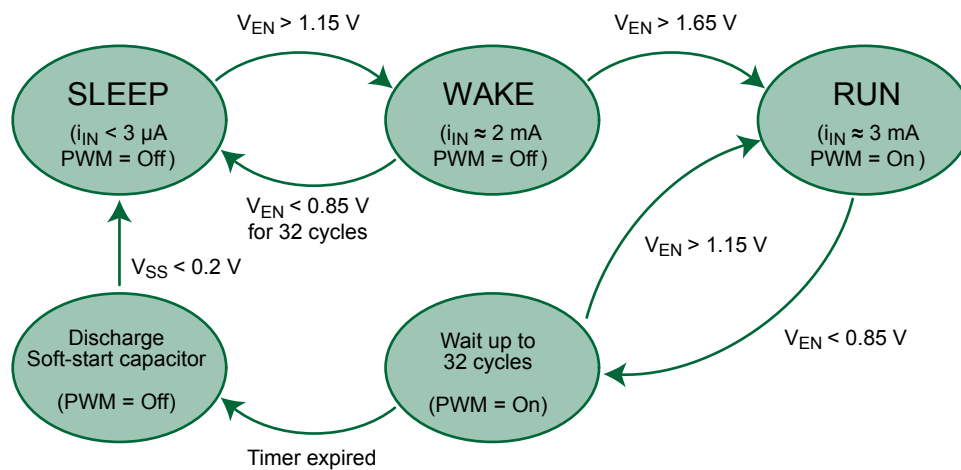

Figure 3. EN/SYNC voltage and A8582 operating modes
- A simple logic input. If EN/SYNC is a logic low ($V_{EN/SYNC} < V_{ENIL}$), then the A8582 and V_{OUT} will be off. If EN/SYNC is a logic high ($V_{EN/SYNC} > V_{ENIH}$), the A8582 will turn on and, provided there are no fault conditions, soft start will be initiated and V_{OUT} will ramp to its final voltage in a time set by the soft start capacitor (CSS). (The operating modes of the A8582 based on EN/SYNC voltage are summarized in figure 3.)
The A8582 protects itself from over-heating, with an internal thermal monitoring circuit. If the junction temperature exceeds the upper thermal shutdown threshold (T_{TSD} , nominally 165°C) the voltages at the soft start and COMP pins will be pulled to GND and both the upper and lower MOSFETs will be shut off. The A8582 will stop PWM switching and stay in WAKE state (see figure 3). It will automatically restart when the junction temperature decreases more than the thermal shutdown hysteresis (T_{TSDHYS} , nominally 20°C).